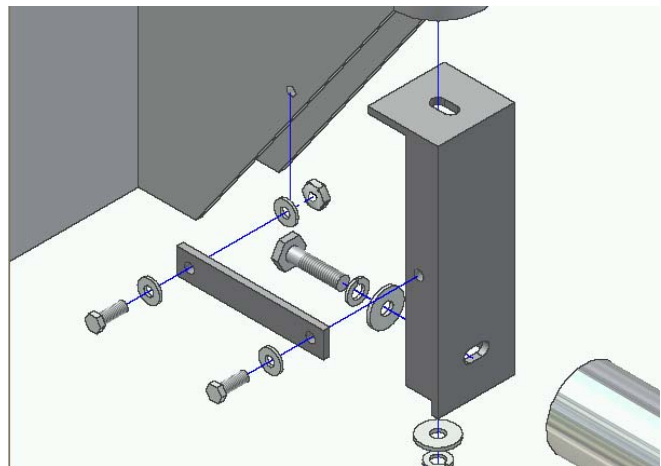

Figure 1.3 – Rear Bracket
4. Fasten Mount Brace to Rear Mount Bracket and vehicles rear body mount using (1) 3/8" x 1" bolt, (2) 3/8" flat washers, and (1) 3/8" lock nut, for each side of Mount Brace (see Figure 1.3). Hand tighten.
5. Attach Side Tube to Front and Rear Brackets using (1) ½" x 2" bolt, (1) ½" lock washer, and (1) ½" flat washer for each bracket, and hand tighten. Adjust Side Tube so that it is level and centered, and tighten all bolts to complete the driver-side assembly.